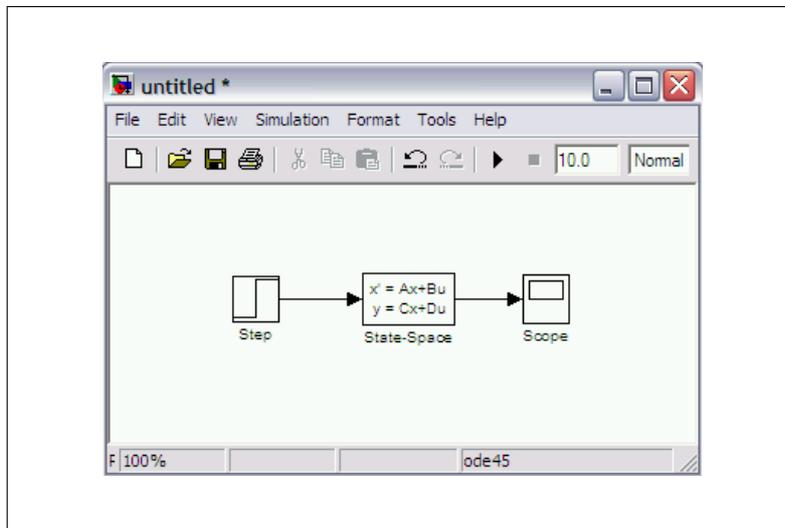

Figure 3: Applying step input
- 7 Pick Simulink > Sources > Step and Simulink > Sinks > Scope and connect them into the input and output of the system. The system should look like Figure 3.